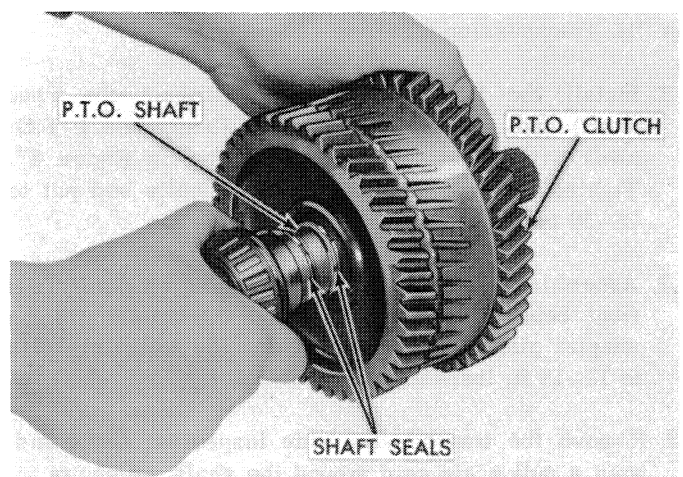

Figure 74
4. Install three shaft seals on the P.T.O. shaft, centering them, using Vaseline. Install the shaft into the clutch housing while holding the clutch hub in position, as shown in Figure 74.